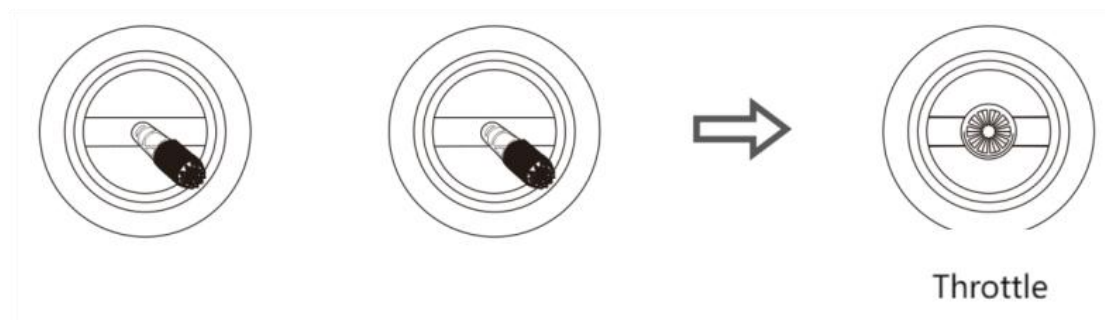

Figure 2-5 Unlock and Take Off
**Step5:** The drone remains at its current altitude and hovers after the throttle lever is centered, as shown in Figure 2-5.